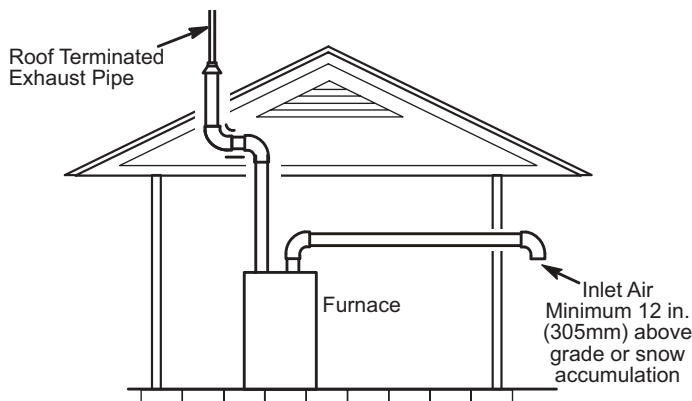
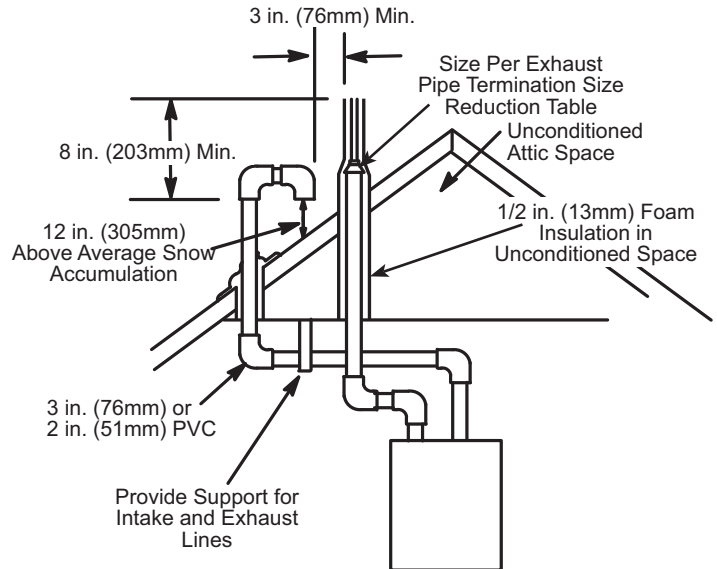

Figure 23. Exiting Exhaust and Intake Vent (no common pressure zone)
Figure 24. Direct Vent Roof Termination Kit (15F75 or 44J41)
1. Intake and exhaust terminations are not required to be in the same pressure zone. You may exit the intake on one side of the structure and the exhaust on another side (**Figure 23**). You may exit the exhaust out the roof and the intake out the side of the structure (**Figure 24**).
3. On roof terminations, the intake piping should terminate straight down using two 90° elbows (**Figure 24**).